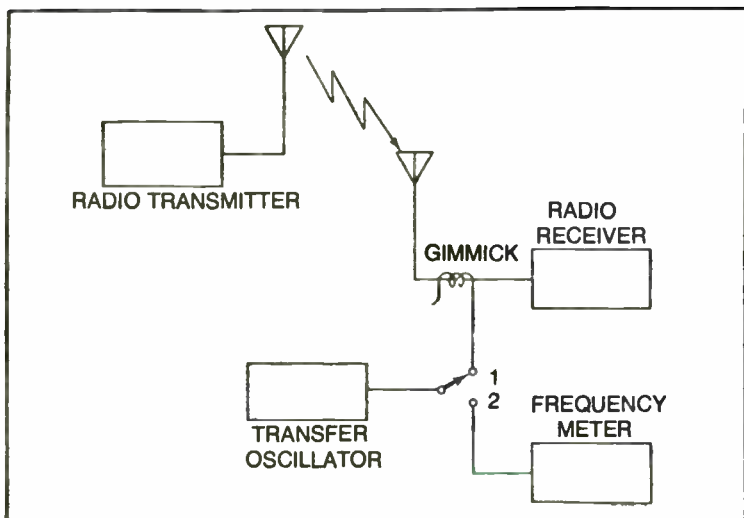

Fig. 21-13. Transfer oscillator.
**Transfer oscillator.** Figure 21-13 shows the transfer oscillator technique. This is one of the heterodyne systems, and it uses the radio receiver as the indicator. The transfer oscillator is connected through a gimmick—a couple turns of wire around the antenna lead—to the receiver. The receiver is tuned to the unknown signal, and then the transfer oscillator is tuned until it is in zero beat with the unknown signal. We can then measure the frequency of the transfer oscillator on an external frequency meter.